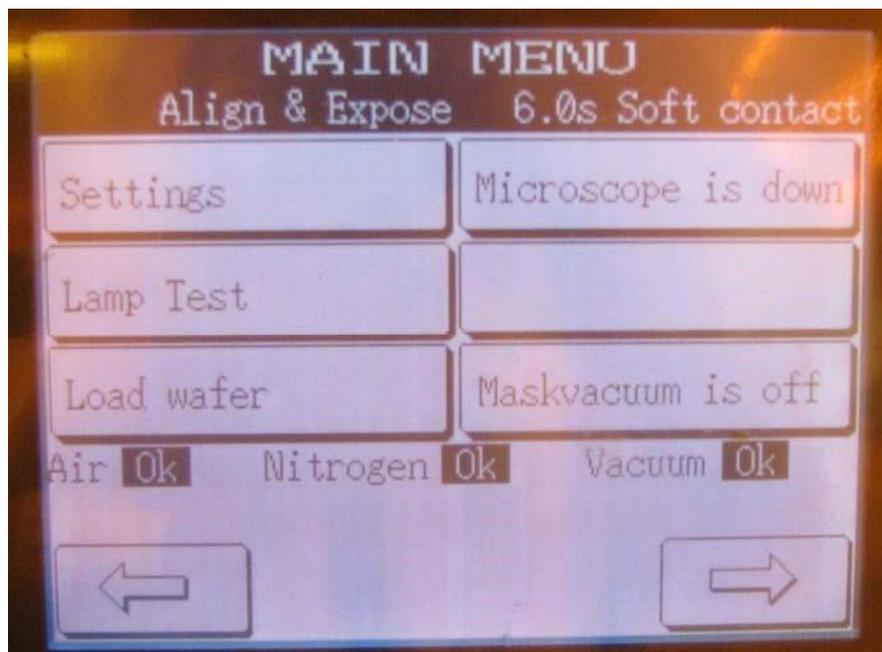

Fig. 3 Main Menu
3. After the machine is initialized (~ 5 seconds) and the message "**MJB4 PRECISION MASK ALIGNER – ready**" appears, press the right arrow button to return to the MAIN MENU (Fig. 3).